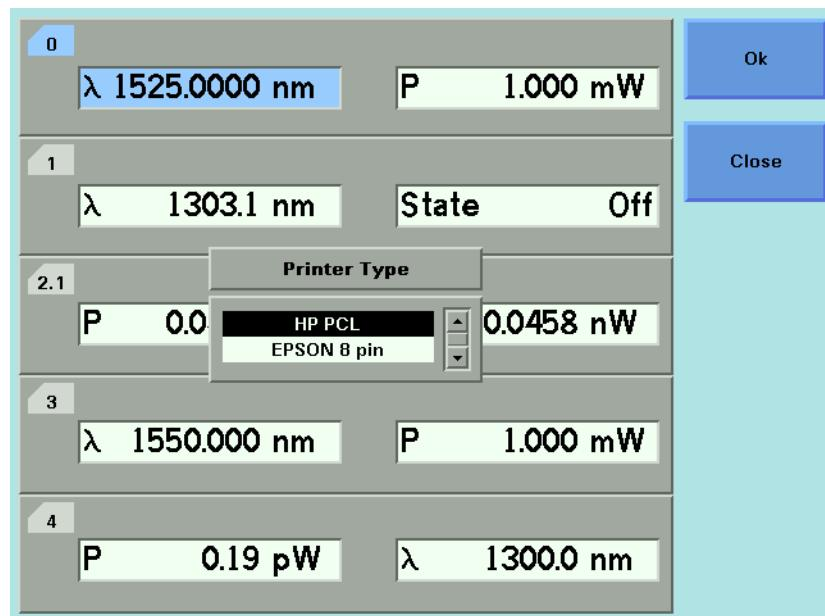

Figure 36 Selecting a Printer Type
**2** Move to the <Printer Type> menu option and press *Enter*. You see a box, as shown in Figure 36 , displaying the following printer types: